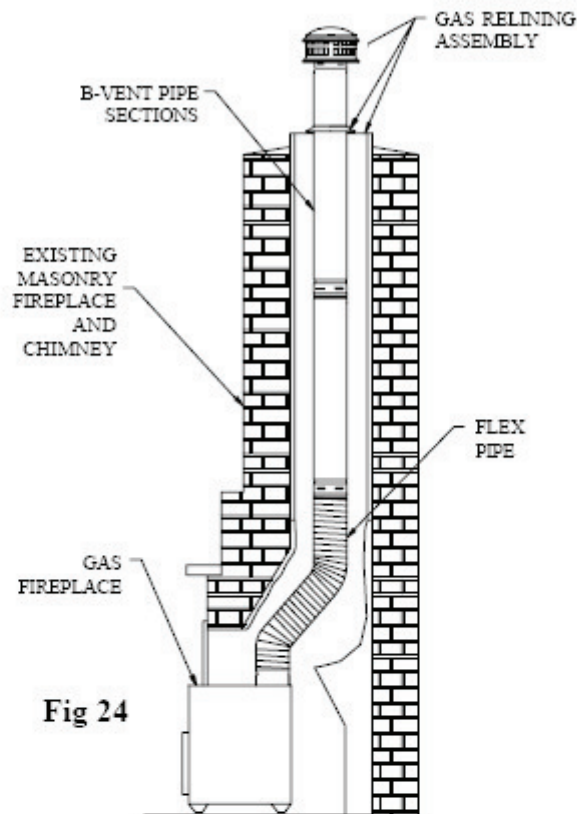

Fig 24
**1. Description.** A masonry chimney should be relined with B-Vent when venting a Category I gas appliance, such as a gas fireplace insert or freestanding gas stove, or to improve the venting and reduce condensation of existing gas appliances which are currently venting into the masonry chimney. These instructions encompass two general configurations: (1) A gas fireplace situated inside an existing masonry fireplace (Figure 24) or (2), a free-